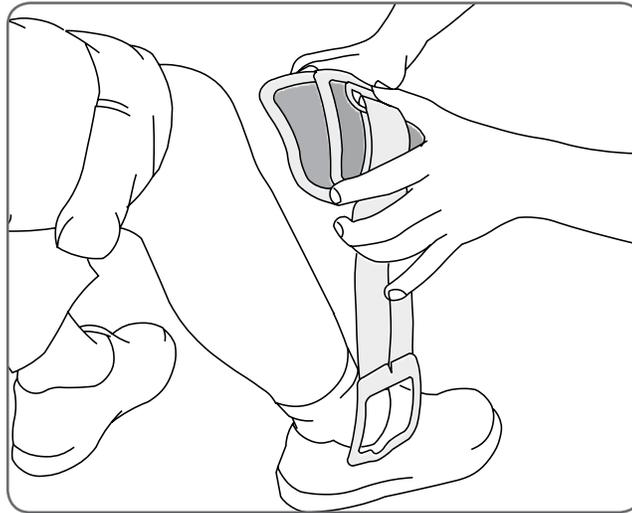

Figure 10-7: Removing the L300 FS Cuff with the captured electrode bases.
8. Gently remove the L300 FS Cuff from the leg. See Figure 10-7.